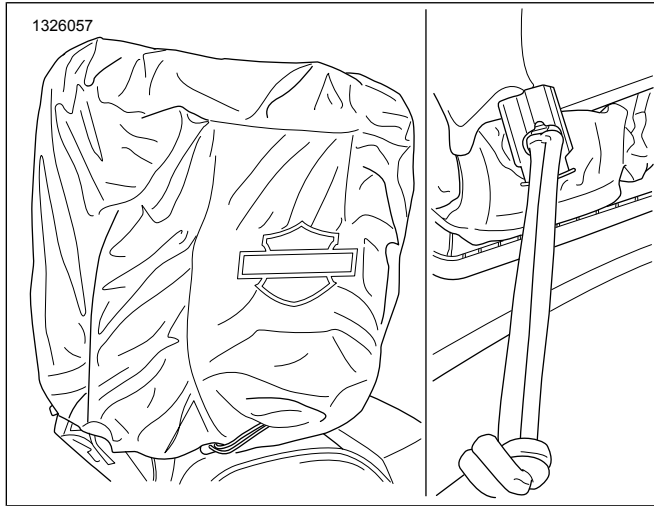

Figure 14. Rain Cover
1. See Figure 14. Pull rain cover over entire bag with Bar and Shield facing front of bag.